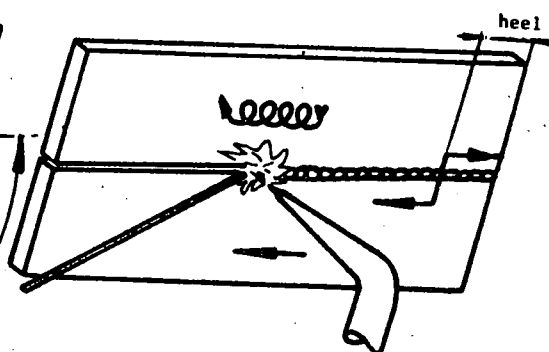

Fig. 2
- c) Distribute the heat on both sides of the joint by means of oscillating movements (fig. 2), drawing back and bringing forward the tip so as to enable a rapid solidification.